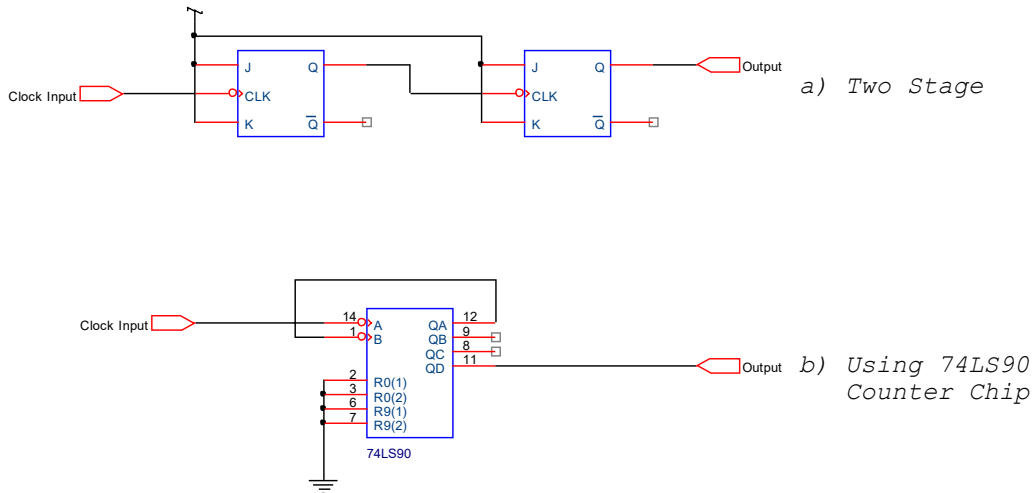

Figure 7-10: Two More Divider Circuits
By cascading counters, we can get larger divisors. Can you determine the divisor ratio for each of the circuits of Figure 7-10?
In Figure 7-10(a) we have cascaded two JK flip-flops to form a *ripple* counter. From digital fundamentals, you'll recall that the modulus of a binary ripple counter is equal to:
Where N is the number of flip-flops in the circuit and MOD is the modulus, or number of unique counting states. Since $N = 2$, the circuit of Figure 7-10(a) divides by 2^2 , or 4. The top circuit therefore divides the incoming frequency by four.
The bottom circuit cannot be analyzed without studying the data sheet for the 74LS90. The 74LS90 is wired as a BCD (modulo 10) counter in Figure 7-10(b). This means that there are ten unique counting states, and since the Q_D output is being used as the output, there will be one pulse on Q_D for every ten input pulses on the clock input (A). The circuit divides the input frequency by 10.